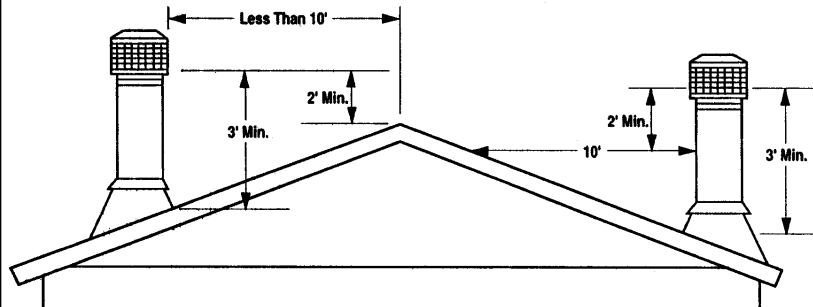

Figure 14
8. Figure 14 illustrates the correct height of your chimney top. It is unlikely that your installation does not adhere to the installation instructions. However, if not correct, you could experience an unusual downdraft. Usually, the best solution is to increase the chimney height. This may also be necessary if nearby trees, adjoining roof lines or a hill is causing a downdraft condition.